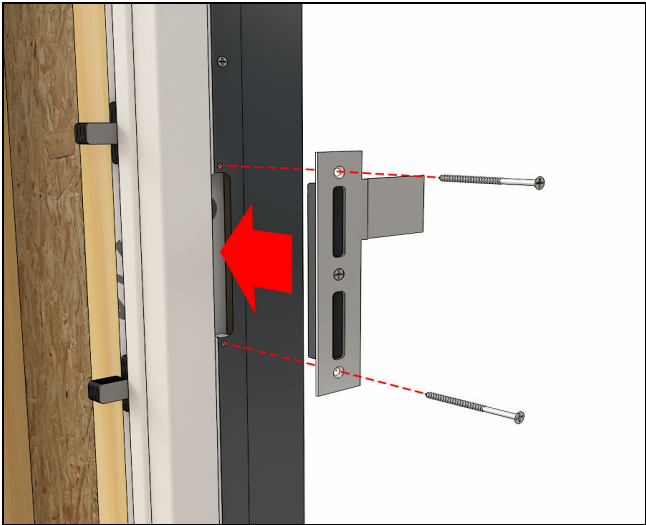

Figure 20
10. If applicable, install the strike plate subassembly using the pre-drilled holes. Ensure there are shims behind the jamb at the screw holes. See Figure 20.